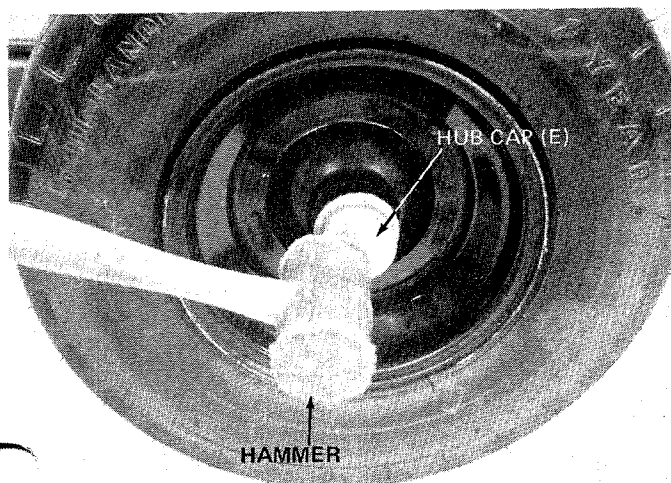

FIGURE 4
- Place hub cap (E) in position on wheel and tap on with a plastic hammer. See figure 4.